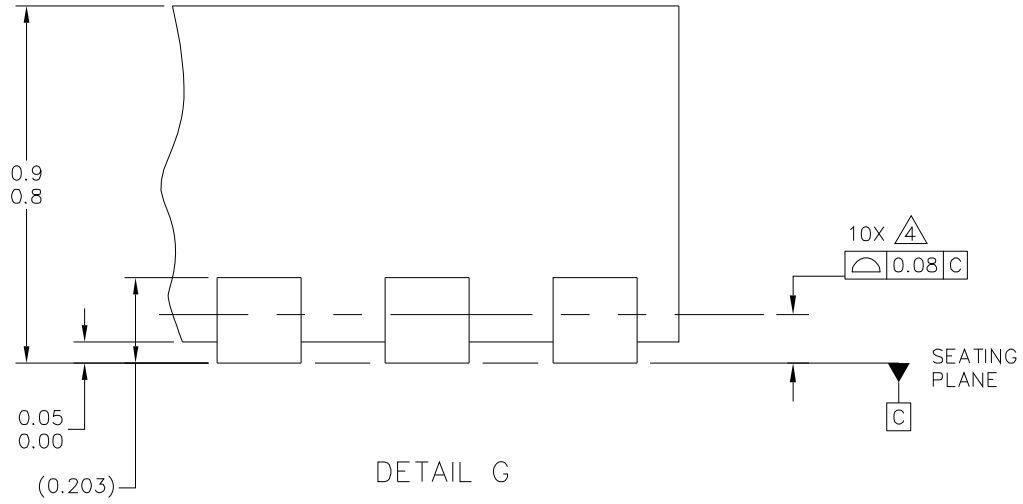

**Figure 6. Footprints and Soldering Masks (dimensions in mm)**
1. The PCB land should be designed as Non Solder Mask Defined (NSMD) as shown in Figure 6.
3. PCB land pad is 0.6 mm x 0.225 mm as shown in Figure 6.